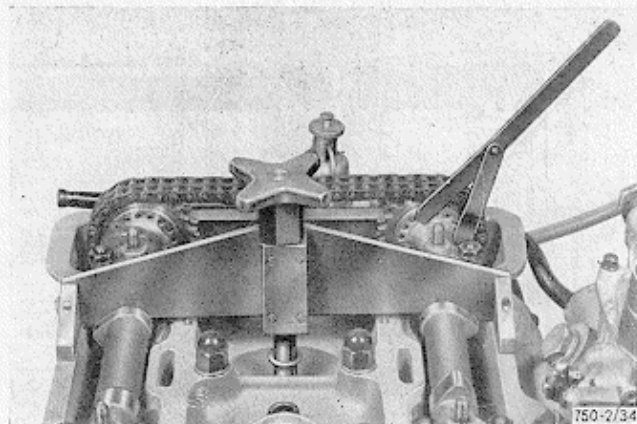

Fig. 34 - Making a camshaft rotate with regard to its driving sprocket by means of the tools 6121.24.012
- 3) by means of the appropriate pin wrench (tool No. 6121.24.012 - fig. 34), rotate the cam-shaft until the reference marks are re-aligned;